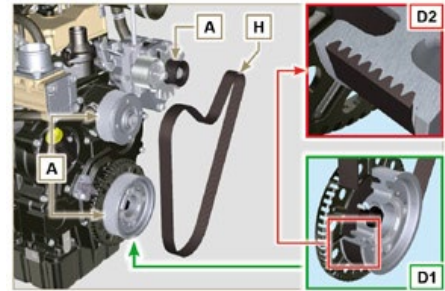

Fig 11.43
- Remove the belt **H** (**Fig. 11.43**).
11. Install the new belt **H** (Fig. 11.43).